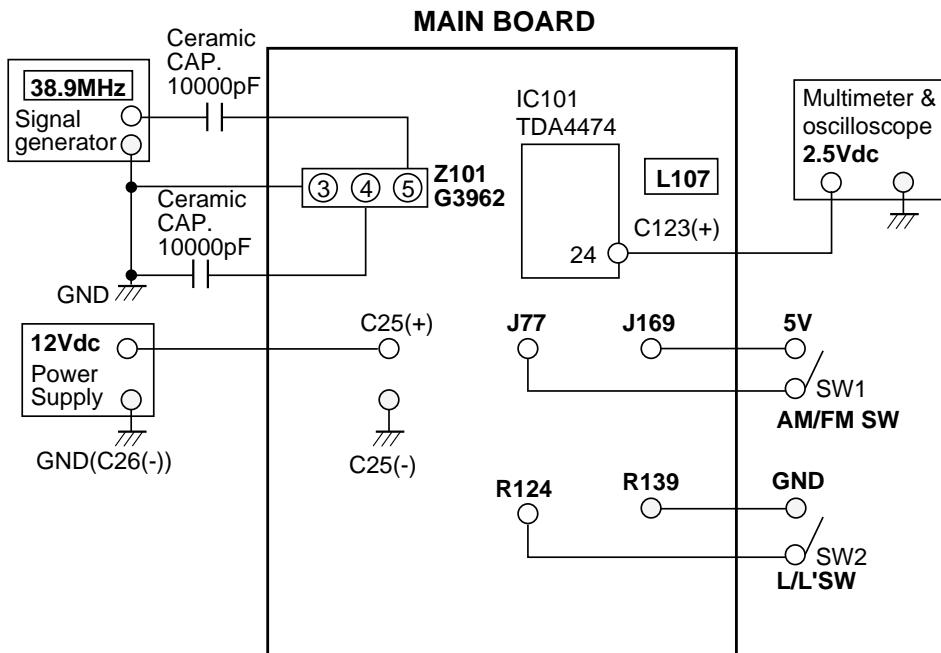

Fig.1: Connection Diagram of Equipment for BG VCO Adjustment
1. Connect the measuring equipment to the TV as shown in Fig. 1.